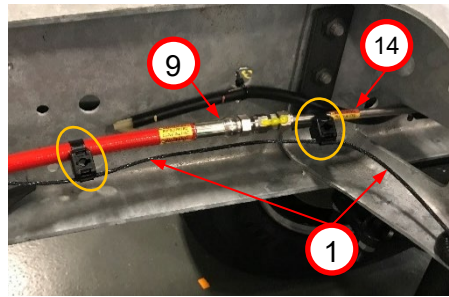

Figure 7.
14. Use side cutters to cut all eight dual tie strap clips (circled) securing chassis harness (1) to high pressure flexible fuel hose (9) and one clip (circled) securing chassis harness to HP fuel tube (14). *Figure 7*
16. Secure fuel system chassis harness (1) to high pressure (HP) flexible fuel hose (21) and HP fuel tube, hose to union (14) along driver side chassis frame rail using eight dual tie strap clips, p/n 61090072. *Figure 7*